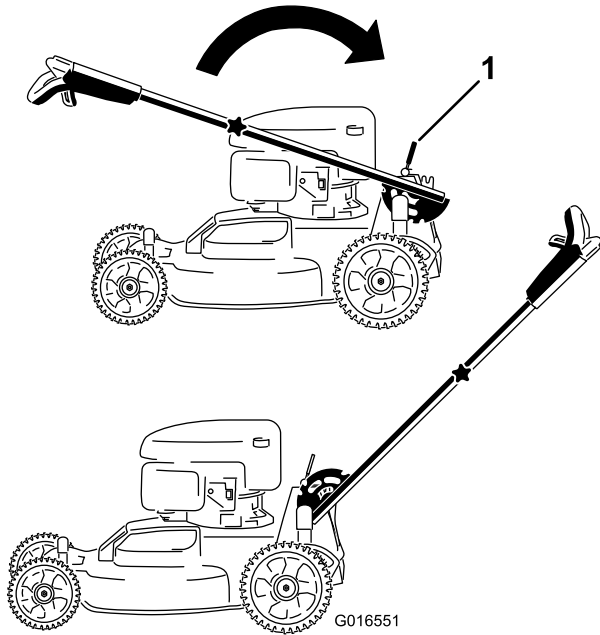

Figure 4
1. Rotate the upper handle so that it nests together with the lower handle (Figure 3), and tighten both knobs on the handle to lock the upper handle in place (Figure 4).
2. Release the handle-lock lever (Figure 4).
3. Pull the handle rearward and lock it into position (Figure 4).